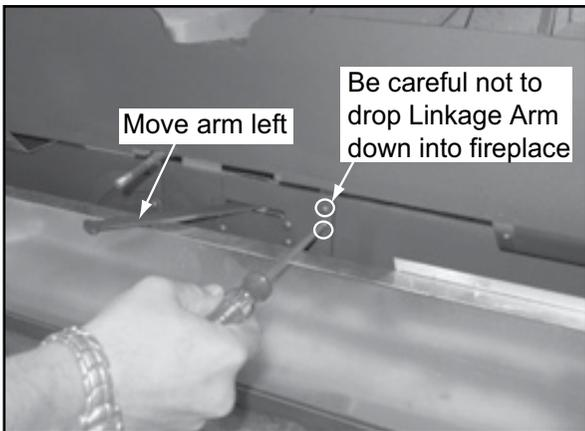

Figure 4.15
5. Remove 2 screws from timer linkage upper arm. Be careful NOT TO DROP arm in bottom of fireplace. Figure 4.15.